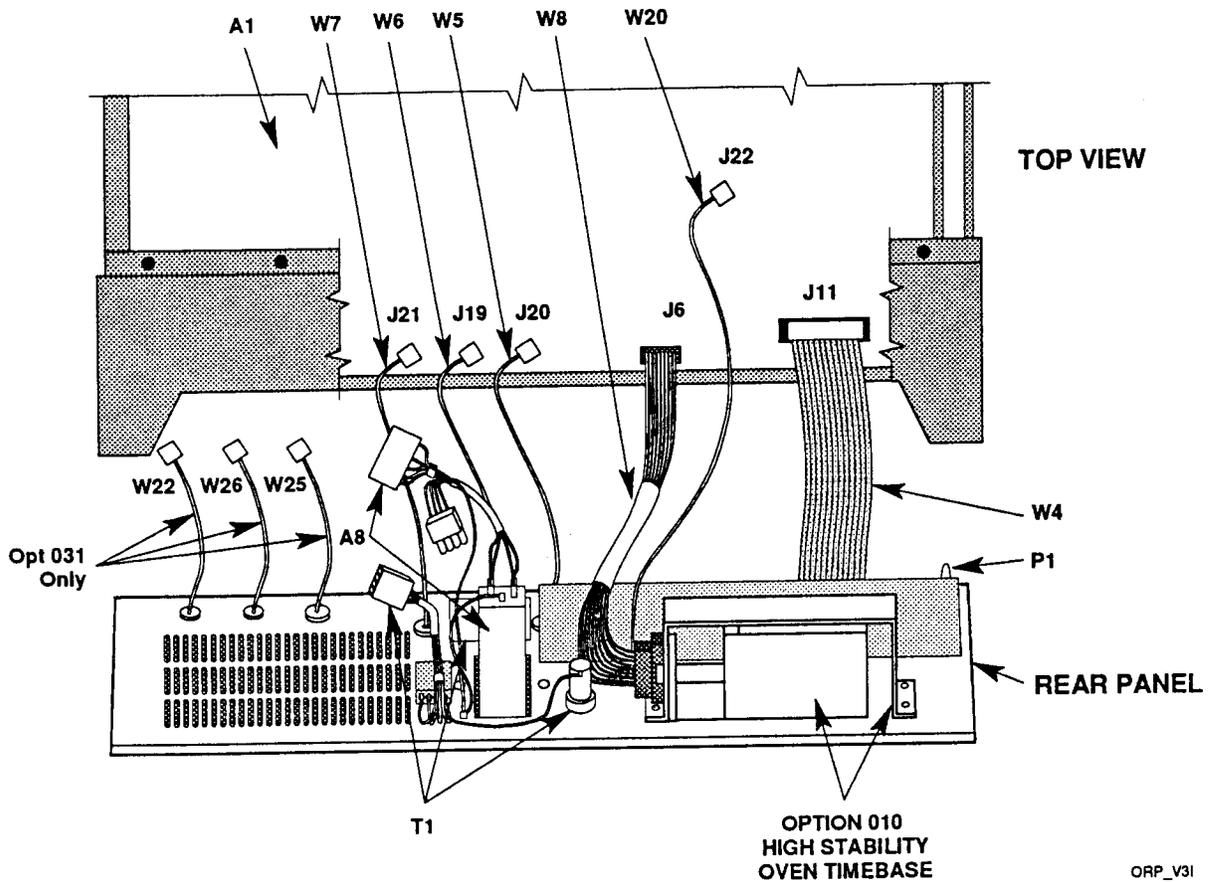

Figure 5-2. Option 010 Rear Panel Replacement
- 5 Pull the rear panel about three inches away from the instrument. (See *Figure 5-2*.)